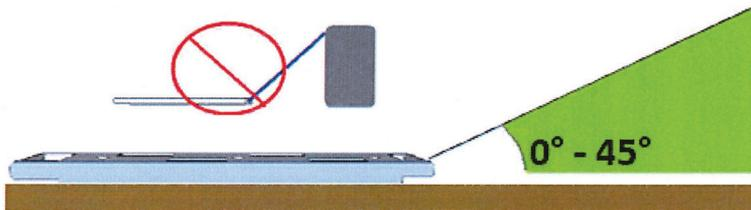

Figure 6
3. Verify that the load is less than 45 degrees from the horizontal plane of the anchor plate (Figure 6). Attachment angles greater than 45 degrees can decrease the holding capability of the system.